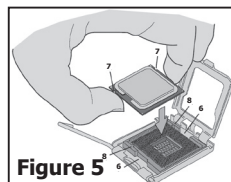

Figure 5
5. Hold the processor with your thumb and index fingers oriented as shown in Figure 5. Make sure fingers align to the socket cutouts (see Figure 5, 6). Align notches (see Figure 5, 7) with the socket see (Figure 5, 8). Lower the processor straight down without tilting or sliding the processor in the socket.